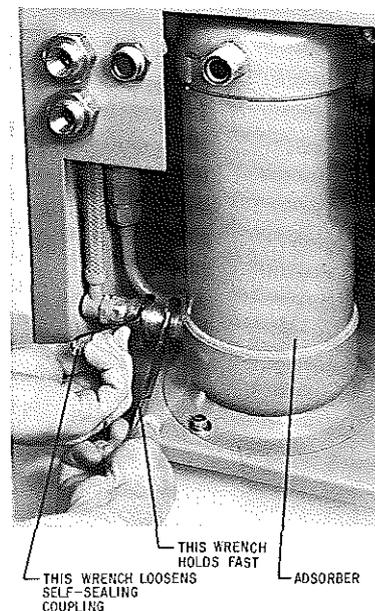

Figure 4.1 Disconnecting the adsorber self-sealing couplings
To remove the compressor adsorber see Figure 4.1 and proceed as follows:
5. Disconnect the adsorber-inlet self-sealing coupling. See Figure 4.1.